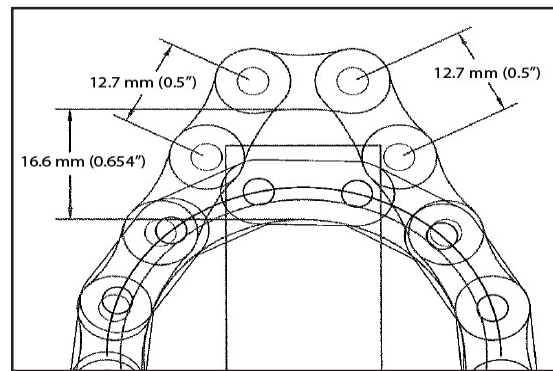

Figure 5-43. Mast Chain Slack Inspection
2. Insepct each chain for slack. Each pairing chain should have same amount of slack. See Figure 5-43 for maximun allowable slack. Replace the chain if required.